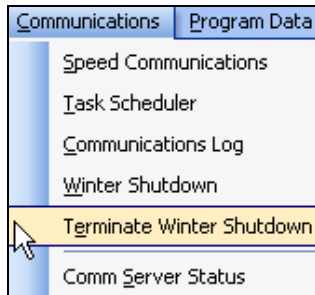

Figure 15.0.1
1. From the toolbar at the top of the screen select **Communications** then scroll down to **Terminate Winter Shutdown** and click on it (Figure 15.0.1).